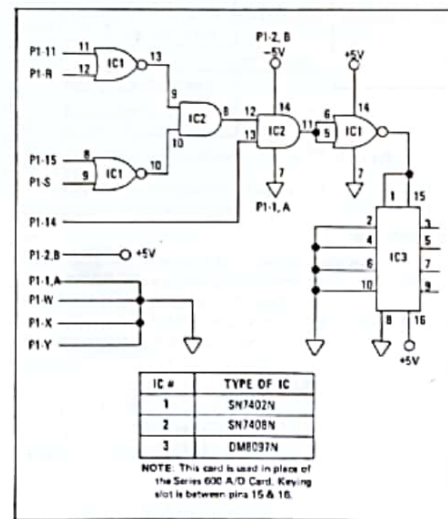

Figure 4. Schematic of crest-factor test card.
(6) If it is desired to test for crest factor of the voltage and current channels, a test card may be built following the schematic shown in Figure 4. This circuit should be assembled on a card which will fit Socket J6, where it is installed in lieu of the Series 600 Analog-to-Digital (A/D) Card when making these tests.
(7) The following signal-generation and -control equipment: